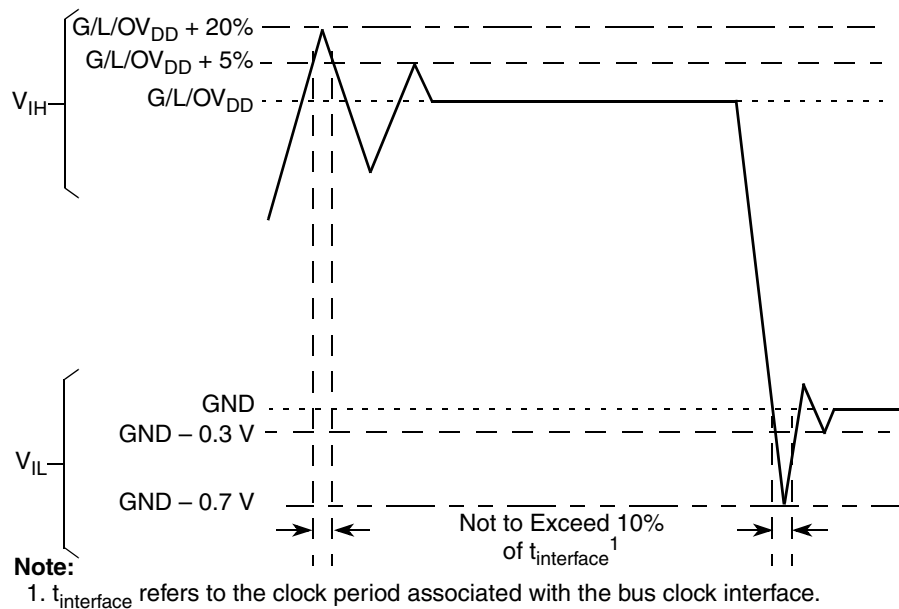

Figure 2. Overshoot/Undershoot Voltage for GVDD/OVDD/LVDD
- 5 (M,L,O)VIN and MVREF may overshoot/undershoot to a voltage and for a maximum duration as shown in Figure 2.
Figure 2 shows the undershoot and overshoot voltages at the interfaces of the MPC8343EA.